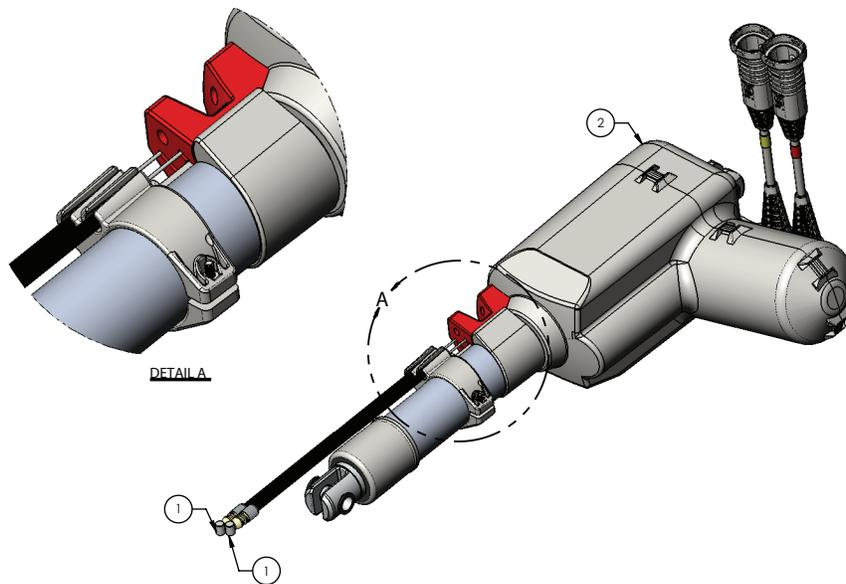

Figure 29 – Fowler CPR pull
11. Using a small flat screwdriver, remove the gray CPR pull retainer from the red CPR pull. A white spacer between the CPR pull and the CPR cable retaining bracket will fall out (Figure 29). Save the white spacer.